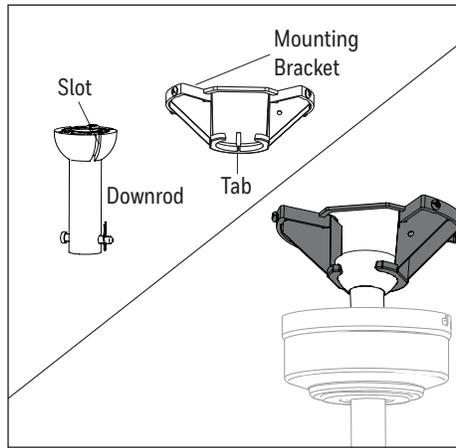

Figure 3.5
5. Install the ball end of the downrod into the opening of the mounting bracket (Figure 3.5). The downrod should not rotate if installed correctly. **WARNING:** Failure to align the slot in the ball with the tap on the mounting bracket may cause the fan to fall, which could result in injury or death.